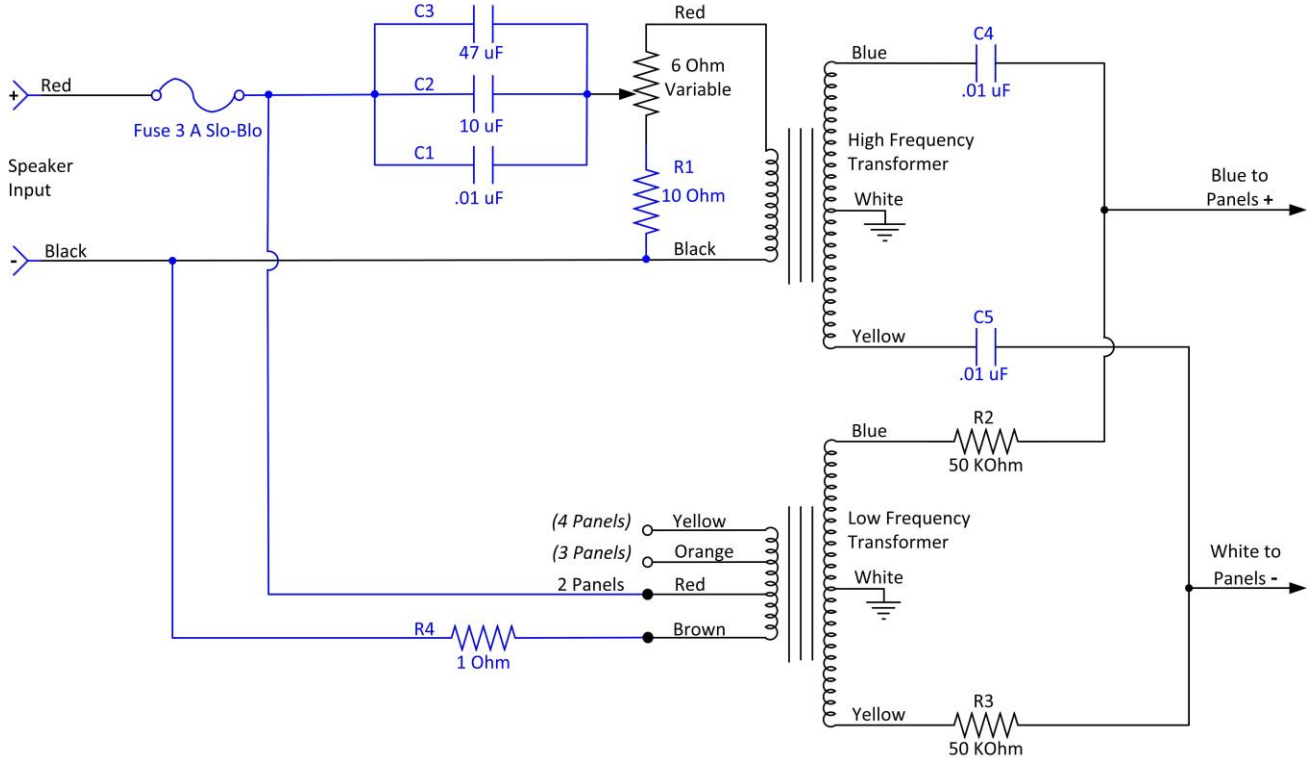

Figure 13. Final configuration of audio circuit, 2023 (component changes coloured in blue).
- While the original 5-Amp slo-blo audio input fuse gave no problems, based on the recommendation from Andy Szabo on the diyAudio site, for safety I changed to a 3-Amp slo-blo (Fig. 13). Pleased to report no issues using this lower rated fuse, even at high sound volumes.